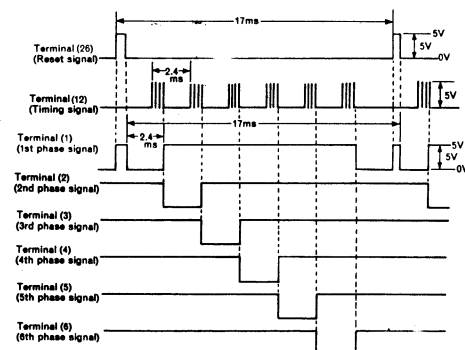

Fig. 9
The dynamic lighting system, which lights each digit at specified intervals while synchronizing with the segment signals employed in the system lighting the display tube in this unit. The 6-digit signal is generated inside IC505 to scan this. This 6-digit signal is concurrently used as the timing signal for the clock function matrix switch and the data transfer timing signal of the frequency counter. The reference signal for the 6 digit signal is obtained from the microcomputer to synchronize the microcomputer and peripheral circuitry. As the reference signal from the microcomputer, 4 timing pulses are output from terminal (12) as shown in Fig. 9 every 2.4ms and the reset pulse from terminal (13) every 17ms. These outputs are input to terminals (8) and (26) of IC505. First, when the reset pulse is input to terminal (26), output terminals (1) - (6) of the 6-phase signal are set to H level from the rise time till just before the decay of the reset pulse. When the reset signal decays, the 1st phase (output terminal (1)) of the 6-phase signal is set to L level for 2.4ms, until the 4th timing pulse input from terminal (8) is input. Simultaneously, when the 1st phase rises to H level from L level, the 2nd phase output is set to L level for 2.4ms, until the 4th timing pulse is output from terminal (8). The same principle is applied to the 3rd, 4th, 5th and 6th phase. Then, when the reset pulse is input to terminal (26) again, the same operation is repeated, each phase is set to L level for 2.4ms every 17ms and scanned in sequence from the 1st phase.